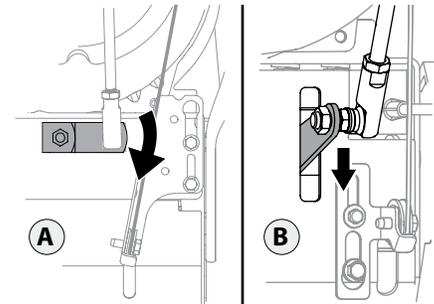

Figure 2-33
9. Make sure the shift lever on the back of the transmission is rotated downward to the full extent of its rotation. See Figure 2-33, Detail "A" for models without hydro transmission or Detail "B" for models with hydro transmission.